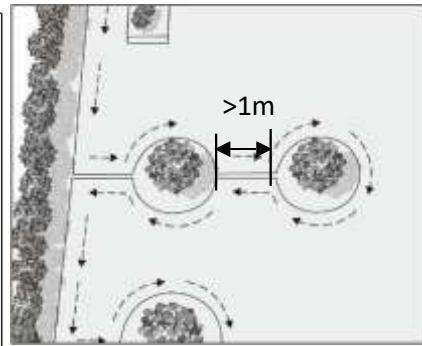

Fig.3C
7. Min. distance between islands: 0.8m (3.28ft). Otherwise, demarcate jointly as one island (Fig.3C).